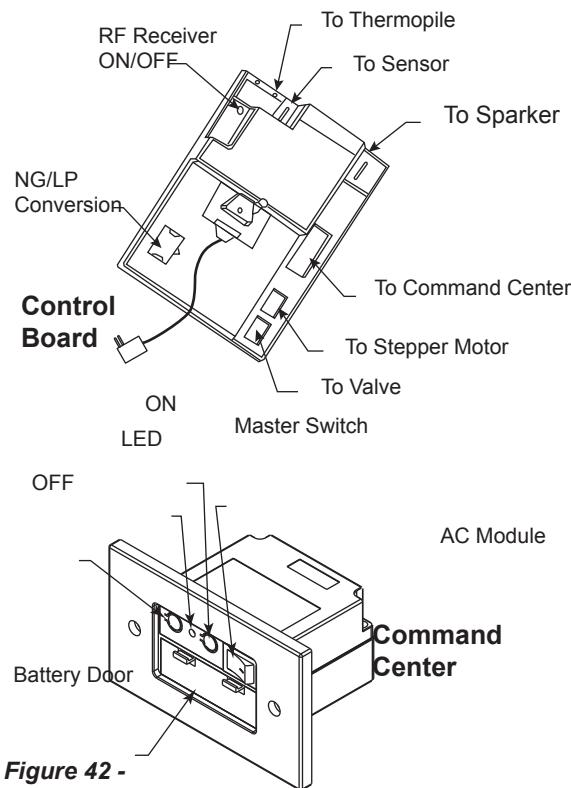

Figure 42 -
1. The RF receiver button located on the Control Board must be in the on position before the learn function can begin. Use paper clip to depress button. One beep for RF receiver ON or two beeps for RF receiver OFF will be given as confirmation. Refer to *Figure 42* for location.